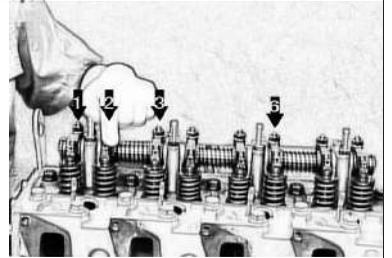

Fig 5-21 Valve Clearances Adjustment for Four-cylinder Engine
2.10 For four-cylinder engine, counted from front side of the engine, adjust no. 1, 2, 3, 6 four valves (see Fig 5-21).